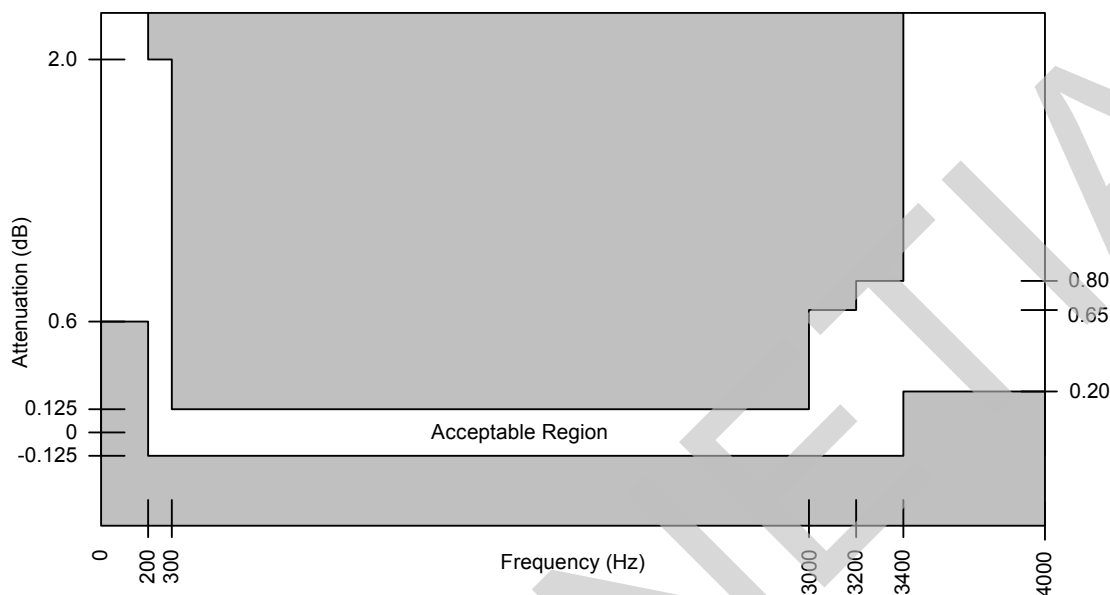
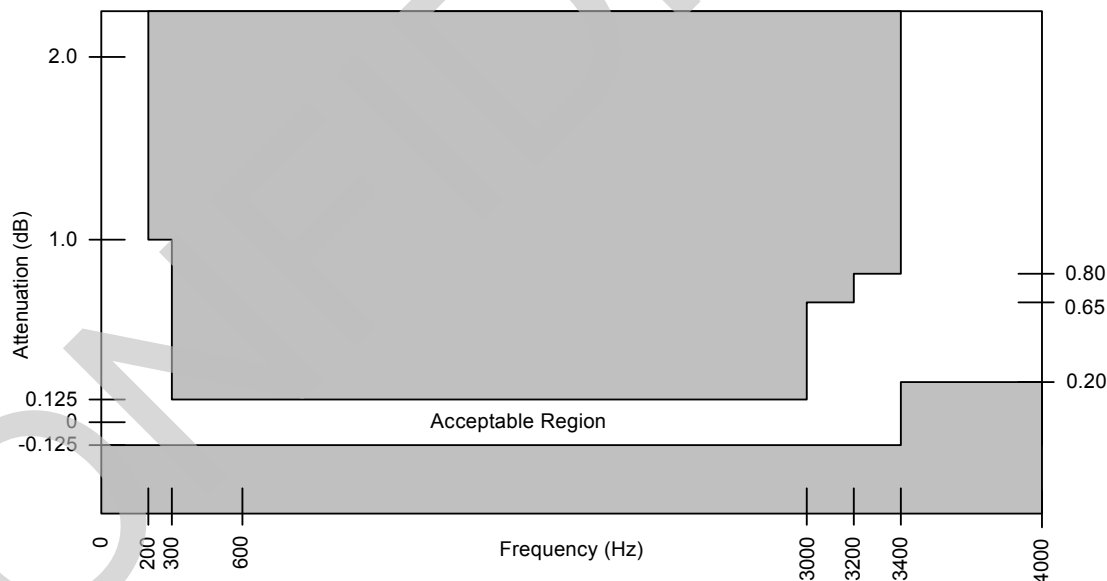

Figure 18 - Transmit (A to D) Path Attenuation vs. Frequency
Figure 19 - Receive (D to A) Path Attenuation vs. Frequency
3. See Figure 18. "Transmit \(A to D\) Path Attenuation vs. Frequency" on page 39 and Figure 19. "Receive \(D to A\) Path Attenuation vs. Frequency" on page 39.
The signal attenuation in either path is nominally independent of the frequency. The deviations from nominal attenuation will stay within the limits shown in Figure 18 and Figure 19. The reference frequency is 1014 Hz and the signal level is -10 dBm0.